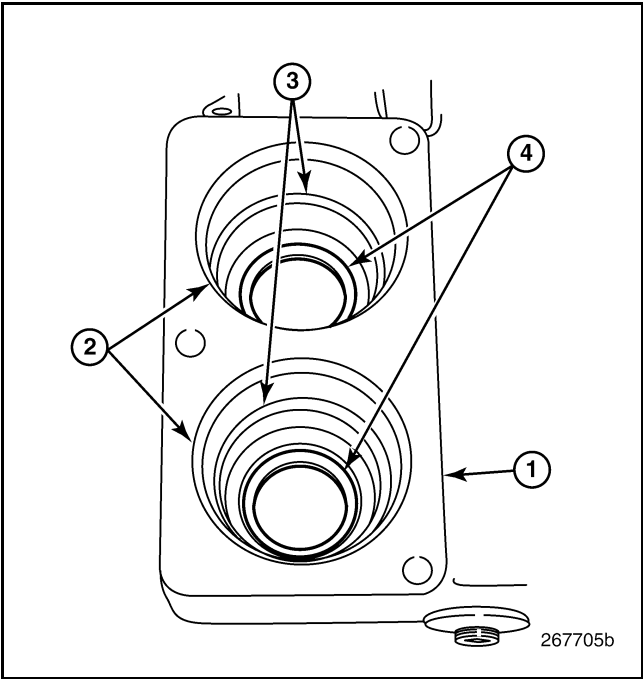

Figure 420 — Wear Rings Installed
1. Check to see that the stainless steel wear rings/shields are properly installed in the thermostat housing (Figure 420).